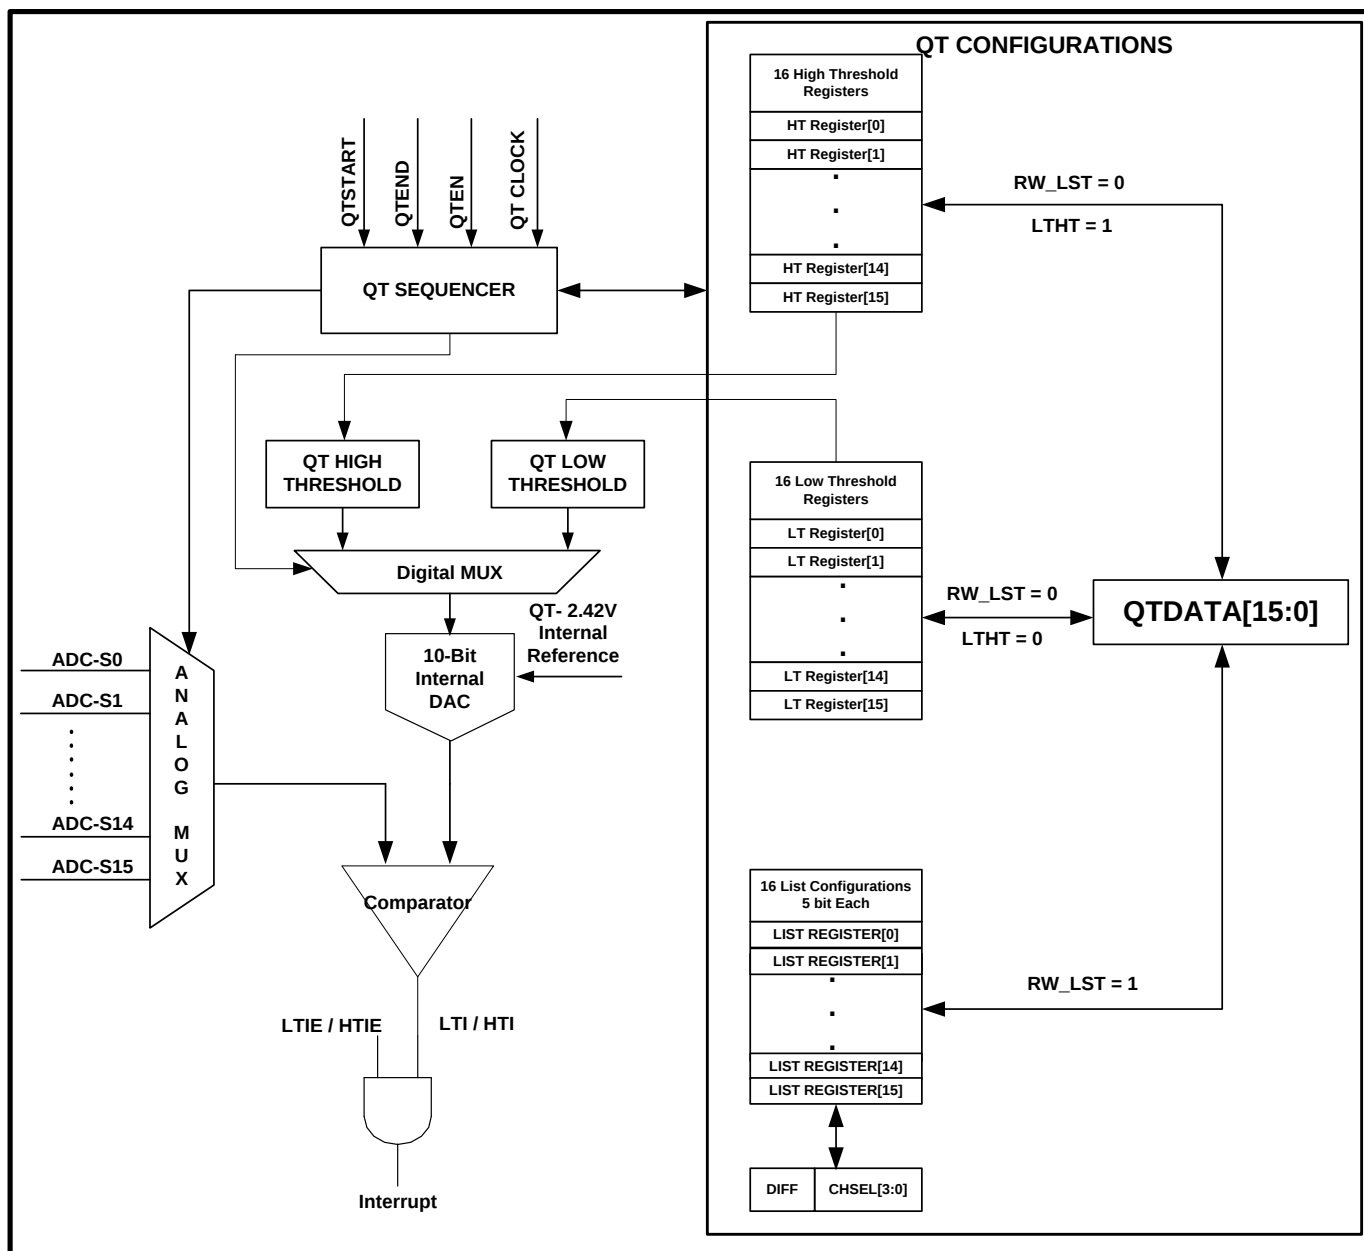

Figure 9-1: Quick Trip Functional Diagram
The DS4830A has 10-bit quick trips with a 16-input analog MUX (Figure 9-1). The MUX selects the quick trip analog input from 16 external channels. The quick trip external channels can be configured to operate as eight fully differential inputs or sixteen single-ended inputs. The quick trip monitors all configured quick trip channels in a round robin sequence.
As shown in Figure 9-1, the DS4830A Quick Trip (QT) controller has a 16-input analog MUX and Quick Trip Sequencer. The QT sequencer creates a list of configurations and sets user defined low and high threshold for external channels. The quick trip controller has 16 low trip threshold and 16 high trip threshold internal registers.
The Quick Trip Control Register (QTCN) has two bits `RW_LST` and `LTHT` which are used to configure thresholds and list creation. The `QTIDX[3:0]` bits (located in the QTCN register) together with `LTHT` and `RW_LST` bits select the source or destination address for the `QTDATA` register access. Figure 9-1 illustrates the threshold configuration and list creation.
As shown in Figure 9-1, the quick trip controller has 16 list registers. These are configured by writing to the QTDATA register when the RW_LST bit is set to '1'. The list address is addressed by the QTIDX[3:0] bits. Each list register uses only lower 5 bits. The first 4 lower bits CHSEL [3:0] specifies the quick trip input channel. The DIFF bit selects between single-ended mode (when DIFF bit is set to '0') and differential mode (when DIFF bit is set to '1') quick trip comparison. The start and stop addresses of the list are provided by the Quick Trip List Register (QTLST). Any channel can be used multiple times at any location in the list.
As shown in Figure 9-1, the quick trip sequencer selects a channel from 16 external channels. The quick trip controller has an internal 10-bit DAC which generates voltage for low and high threshold comparisons with the external channel input. The quick trip is also called a "Fast Comparator" as it compares the input with threshold using the fast comparator. The conversion time is 1.6μs for each threshold; so each channel's thresholds are compared in 3.2μs (1.6μs for low trip threshold + 1.6μs for high trip threshold).